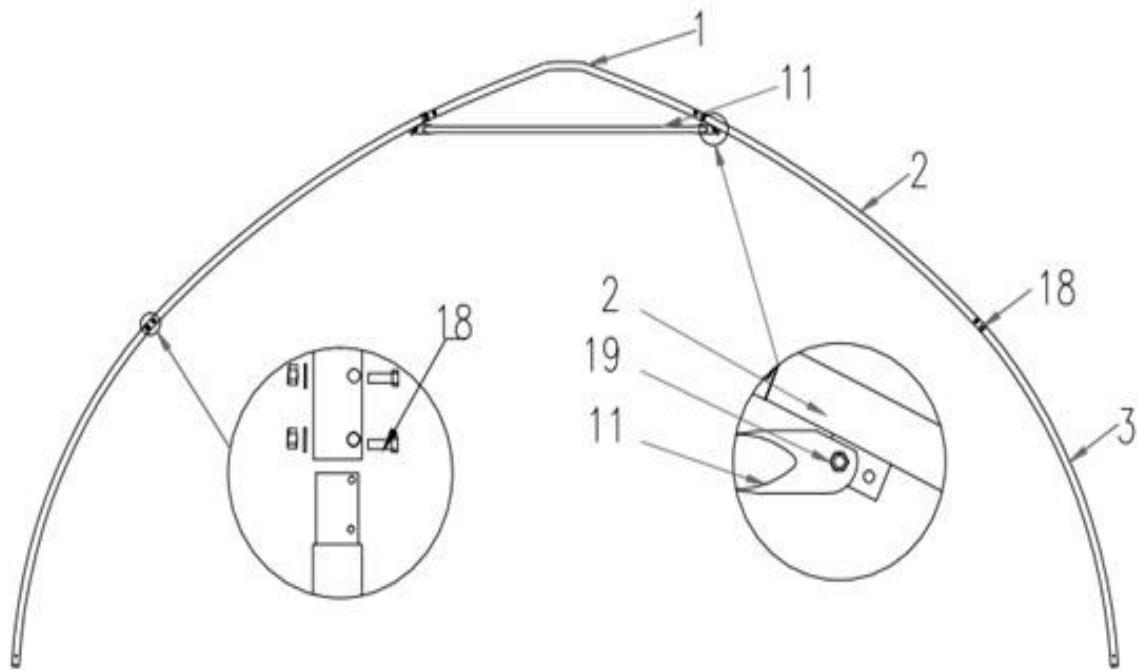

Figure 3
- The (7) middle trusses include the following parts. Connect all tubes with bolt (#18) (refer to figure 3).